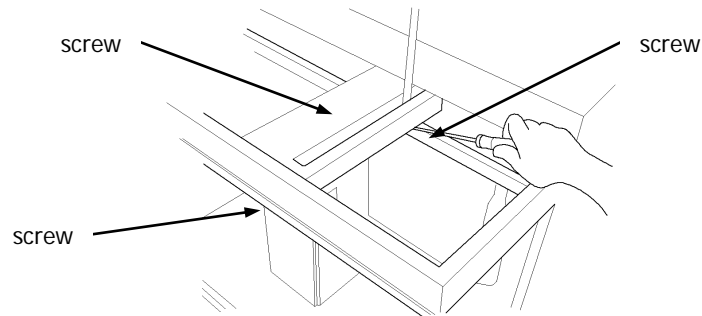

Figure 27 Installing the arm shield
2. Remove the three screws (Figure 27).